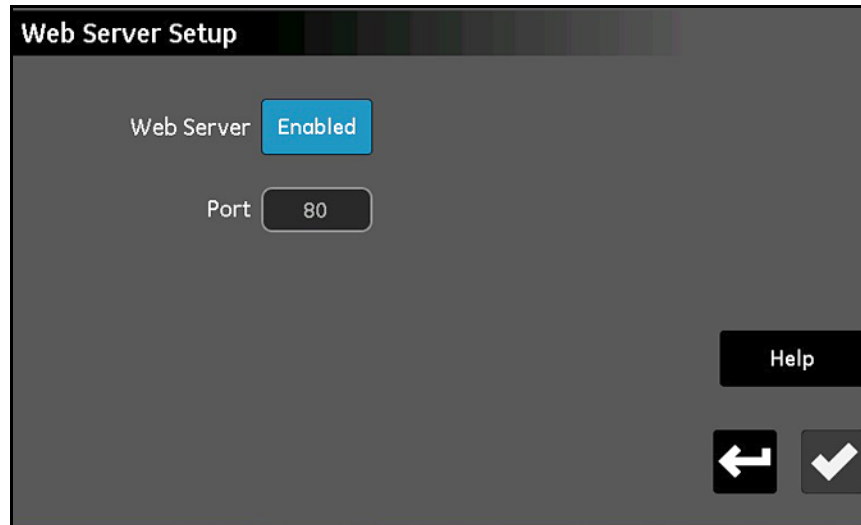

Figure 73: Web Server Setup Screen
1. From the *Configuration Menu* screen (see *Figure 52 on page 55*), tap the **Web Server** button to open a *Web Server Setup* screen similar to *Figure 73* below.